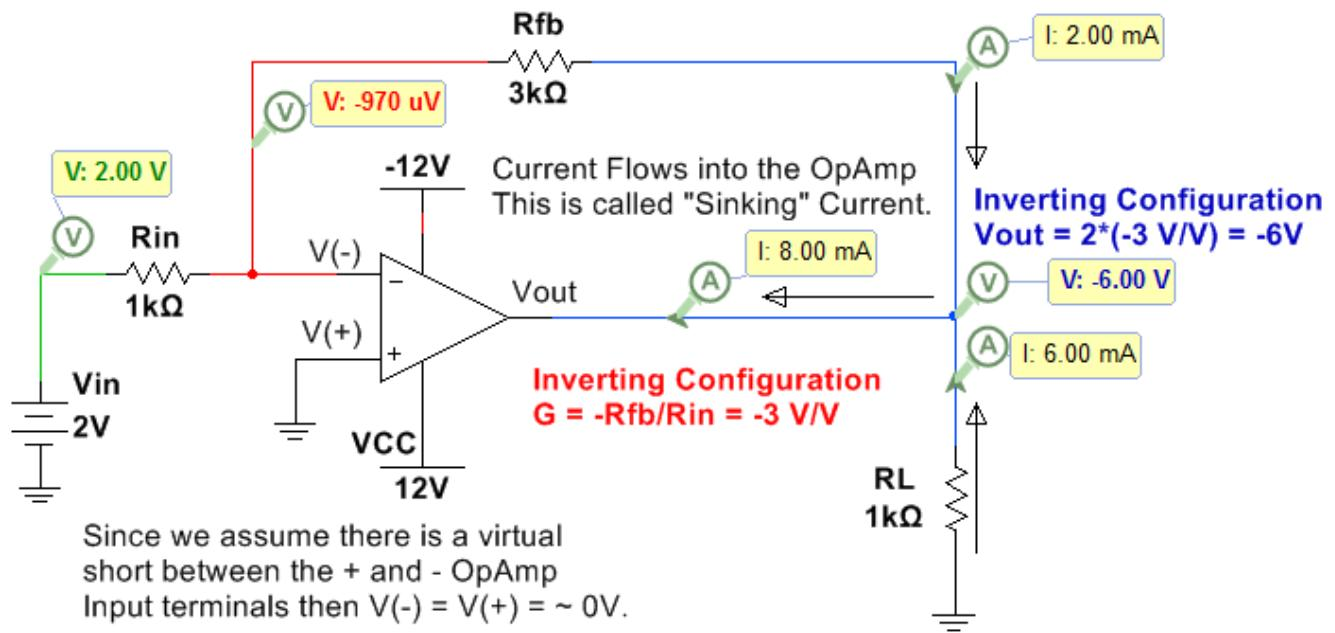
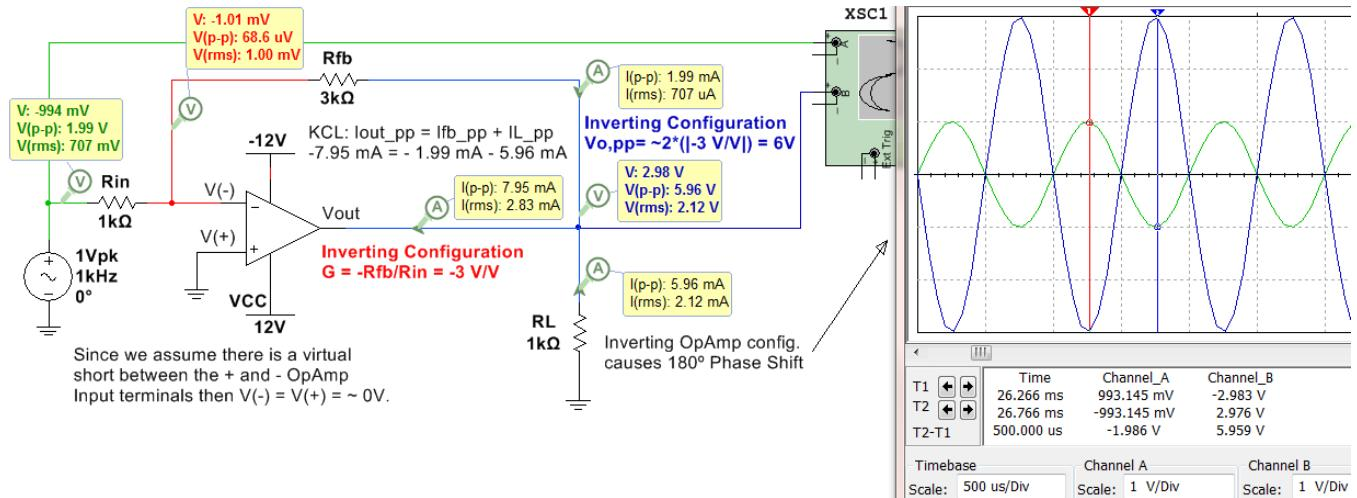
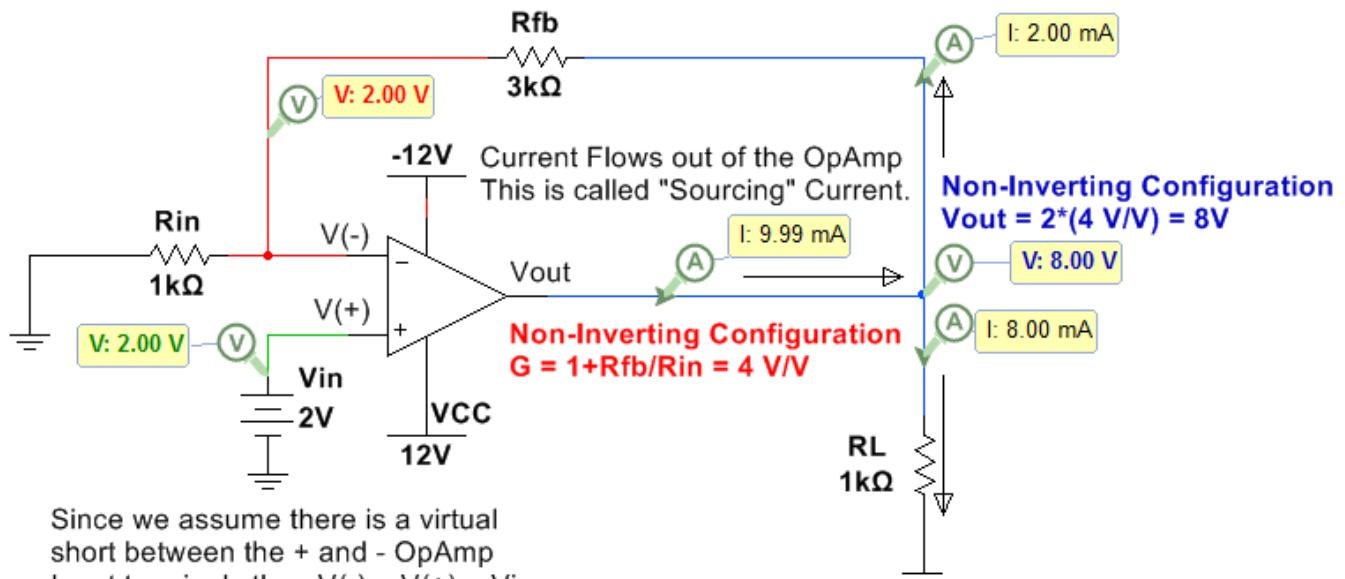
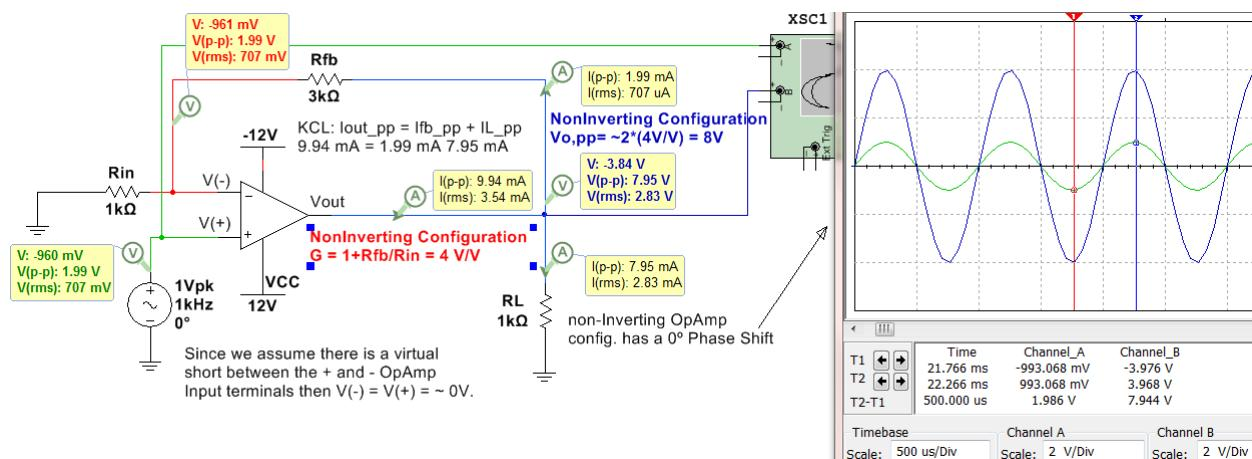

Figure 7.13: Inverting Configuration with a DC input.
Figure 7.14: Inverting Configuration with an AC input.
Figure 7.15: Non-Inverting Configuration with a DC input.
Figure 7.16: Non-Inverting Configuration with an AC input.
- **Inverting Configuration:** If the input voltage is connected to the in input resistance (R_{in}) that is connected to the inverting (-) terminal of the OpAmp it is called the “inverting configuration”. An example with a DC input is shown in Figure 7.13 and an example with an AC signal is shown in Figure 7.14. The closed loop gain equations for an inverting OpAmp are shown in 7.2 and 7.3.
- **Non-Inverting Configuration:** If the input voltage is connected to the in non-inverting input terminal (+) of the OpAmp it is called the “non-inverting configuration”. An example with a DC input is shown in Figure 7.15 and an example with an AC signal is shown in Figure 7.16.
The inverting OpAmp configuration is shown in Figure 7.13 (DC input) and Figure 7.14 (AC input).
In the circuit below the instantaneous voltage values (top numbers) are also shown so you can see that at that moment in time the circuit behaves exactly like the DC circuit in Figure 7.13 ($V_{out} = -.994V \cdot (-3 V/V) = 2.98 V$).
Since the virtual OpAmp in Figure 7.14 has a fixed A_0 of 200,000 V/V regardless of the input frequency the ideal gain in Equation 7.2 matched closely with the Multisim measurements. If an actual OpAmp were used (like the LM324) the gain would be reduced due to the increase in frequency that results in a finite A_0 . For this same reason, Multisim also matches the Non-inverting OpAmp configuration circuit with an AC input in Figure 7.16.
The non-inverting OpAmp configuration is shown in Figure 7.15 (DC input) and Figure 7.16 (AC input).